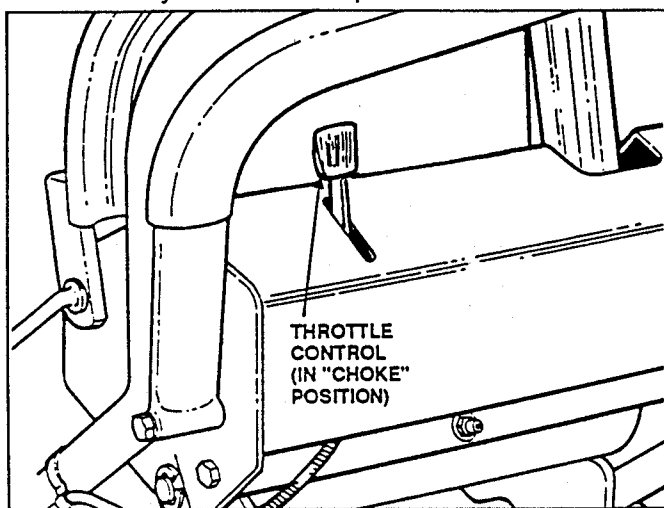

FIGURE 9
5. Move Throttle Control Lever to **CHOKE** $\text{I} \text{O} \text{I}$ position. See Figure 9.